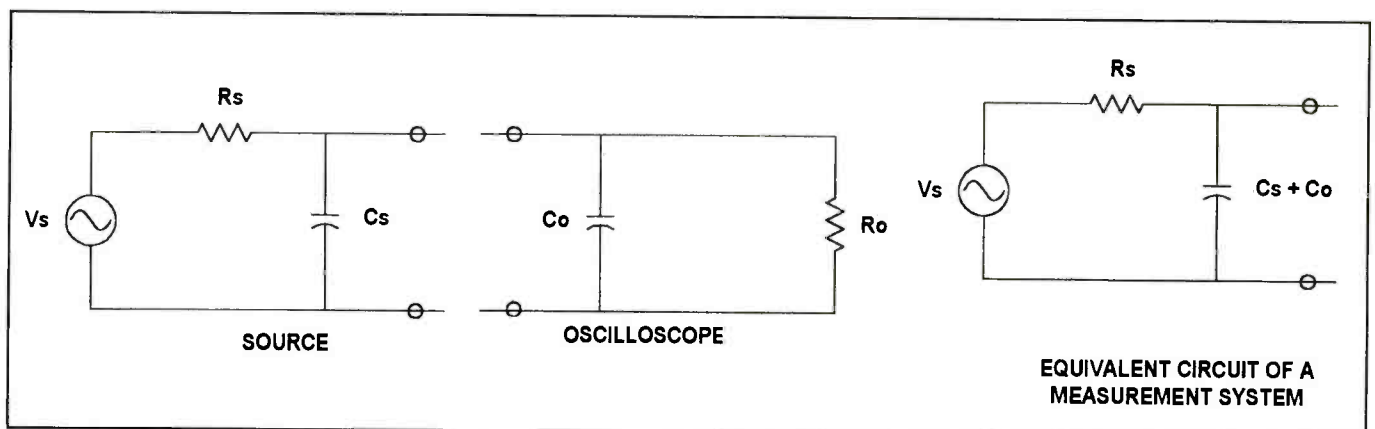

Figure 4. Deriving an equivalent circuit for a measurement system
Consider the simplified measurement system model shown in Figure 4. The actual circuits of the oscilloscope and of the high impedance probe have been reduced to an equivalent parallel resistor-capacitor (RC) circuit. Similarly, as was done in a previous discussion, the circuit being measured has been simplified and reduced to its Thevenin equivalent form. If the circuit's source resistance, R_s , is approximately 50Ω and the measurement is made using a conventional 10:1 high impedance probe, then it is reasonable to ignore the probe's $10M\Omega$ resistance, R_o . The equivalent circuit for the system now consists of a series resistance, R_s , and a shunt capacitance, with a value equal to the sum of the source, C_s , and the input capacitance of the probe/oscilloscope, C_o . From this simple model we can pre-